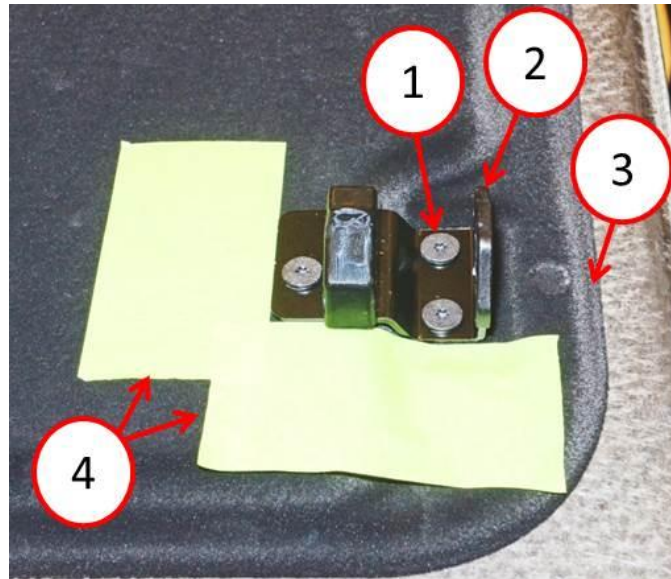

Fig. 1 Bracket Taped
2. Using masking or equivalent tape, mask around the current bracket position (Fig. 1).
3. Remove and discard three Torx screws from the bracket (Fig. 1).
4. Remove and discard the bracket from the roof panel (Fig. 1).
5. Install new bracket (P/N 68324708AA) on the roof panel with three new Torx screws (Fig. 1). Tighten Torx screws to 3.5 N·m (30 in. lbs.).
6. Remove and discard tape (Fig. 1).